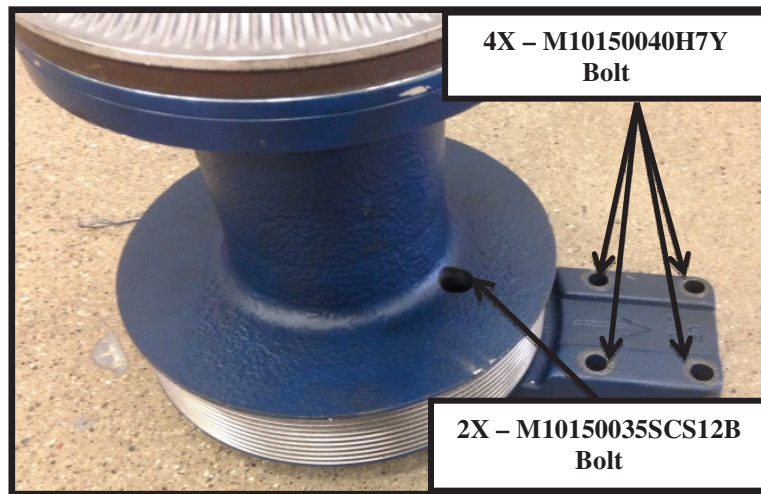

FIG. 4-1
- b. The second mounting configuration utilizes four exposed hex head fasteners and two 8mm Allen socket head cap screws accessed through a machined hole in the pulley. Refer to FIG. 4-1. Properly dispose of hardware.